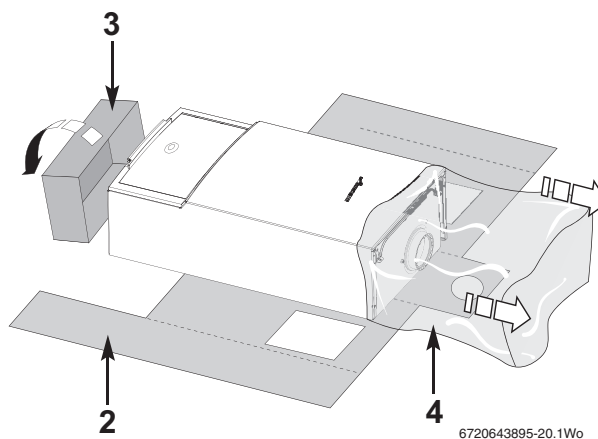
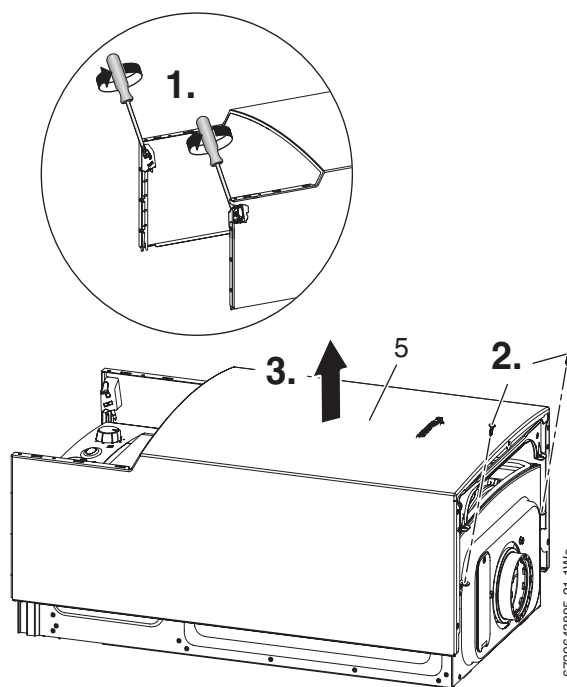

Fig. 28 Remove packaging
Fig. 29 Outer case screw removal
- ▶ Remove outer carton (1) and place safely away from the working area.
- ▶ With the outer packaging removed and the inner sleeve (2) still in place gently lay the boiler on its back.
- ▶ The boiler will lie at an angle to the floor to allow the boiler outer casing (5) to be removed.
- ▶ The inner sleeve (2) opens as shown in figure 28.
- ▶ Remove the protective wrapping (4).
2. Undo the two screws at the top (see fig. 29).
3. Remove the outer case (5).
- ▶ Remove any packaging within the boiler and the packaging base (3).